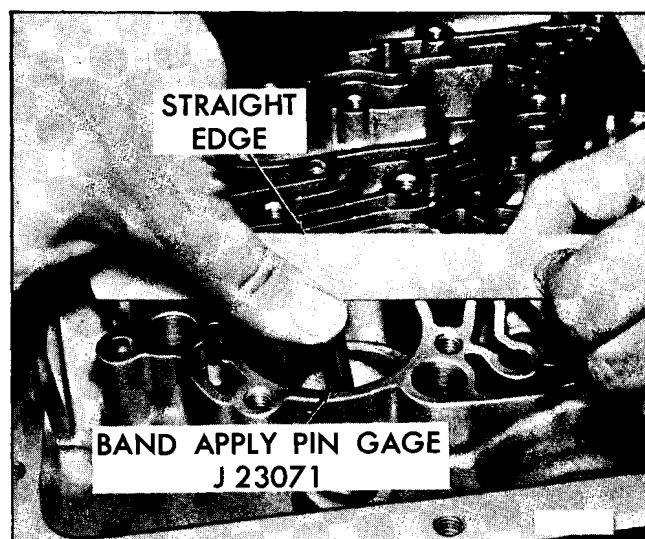

Fig. 7G-156 Selection of Proper Apply Pin
- a. Using Band Apply Pin Gage J 23071 and a straight edge, apply firm downward pressure on the gage as shown in Fig. 7G-156.